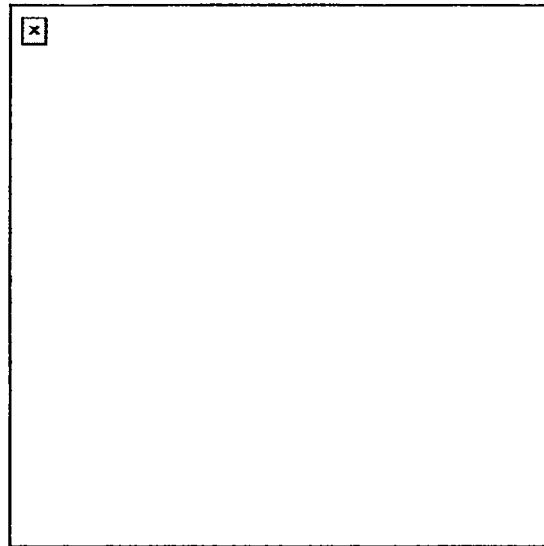

Figure 2. Range determination using vertical lines.
- (1) Place the target on the horizontal line and match it with one of the vertical lines (A, Figure 2).
- (2) Read the number at the bottom or top of the vertical line. That is the distance in hundreds of meters to the target.
- (3) If the figure is the same height as the vertical line above and below the horizontal line, the distance will be half of the number at the top or bottom of that line (B, Figure 2).
- (4) The man shown in A, Figure 2 is 400 meters away; the man in B, Figure 2 is 500 meters away.